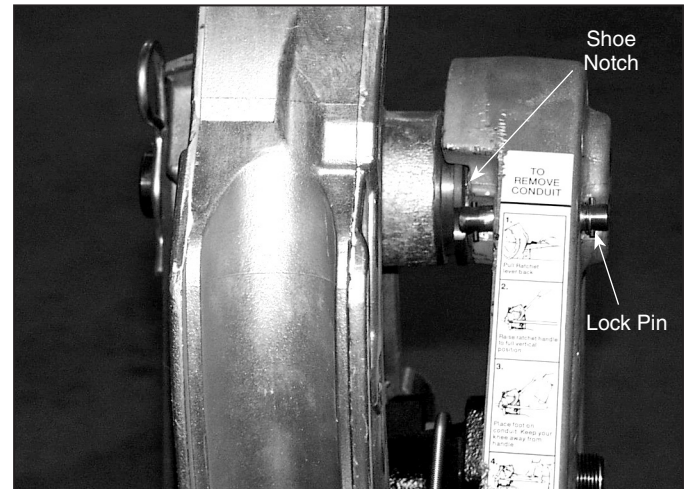

Fig. 7
- Press the shoe lock pin, figure 7, rotate the shoe until the lock pin seats in the shoe notch and holds the shoe in place.